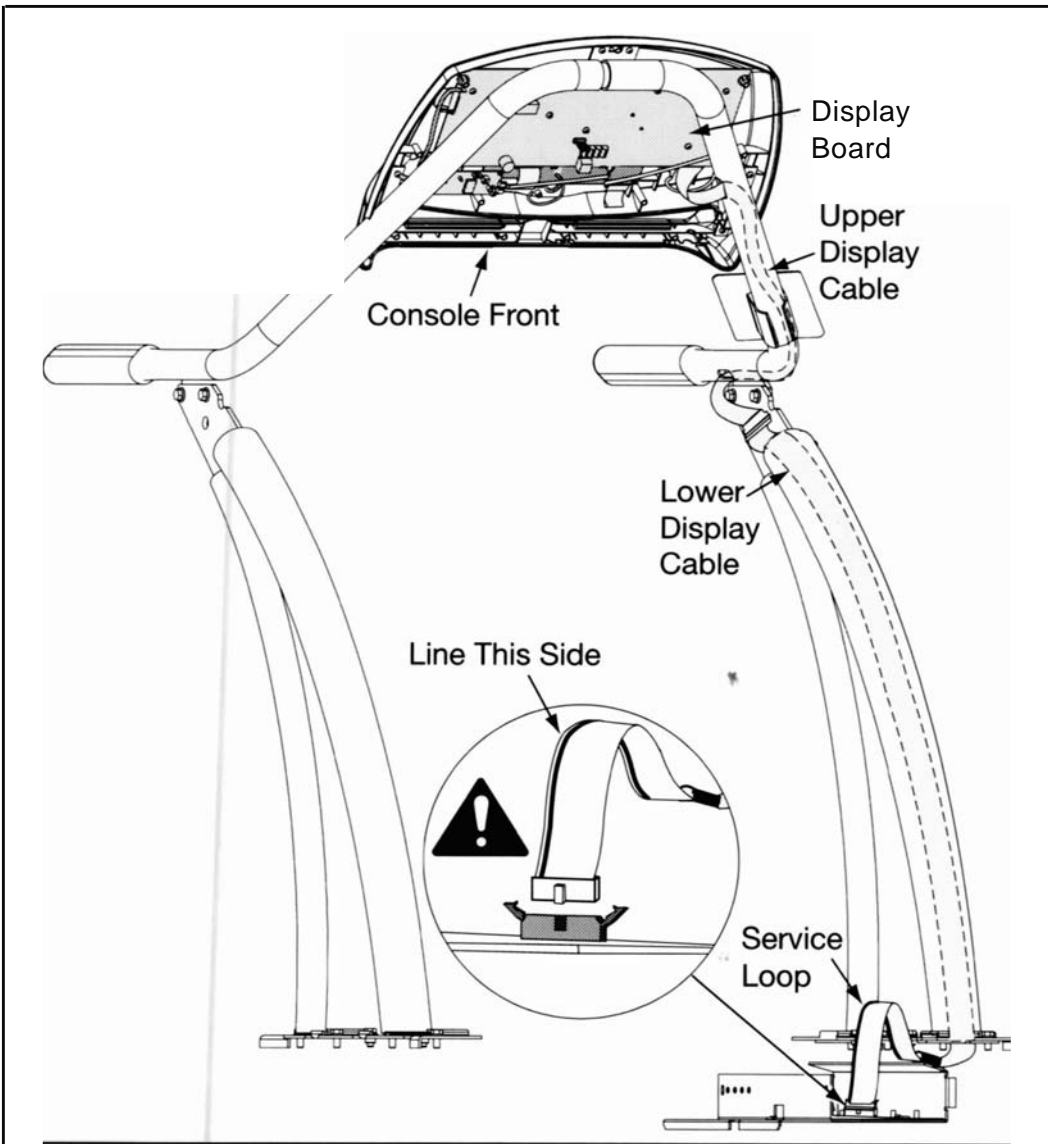

Figure 17
- B. Locate and unplug the connector that goes from the console display board into the the handlebar. See Figure 17.
- A. Locate the connector that goes from the upright into the handlebar. If needed gently use needle nose pliers to pull the cable out of the handlebar. Unplug the connector and pull the upper display cable out of the handlebar. See Figure 17.
- A. Locate the entry hole on the left upright near the top mounting bracket. See Figure 17.
- E. Locate the lower control board in the base of the treadmill. Plug the connector into the lower control board. See Figure 17.
- F. Connect the male and female cables at the junction. See Figure 17.